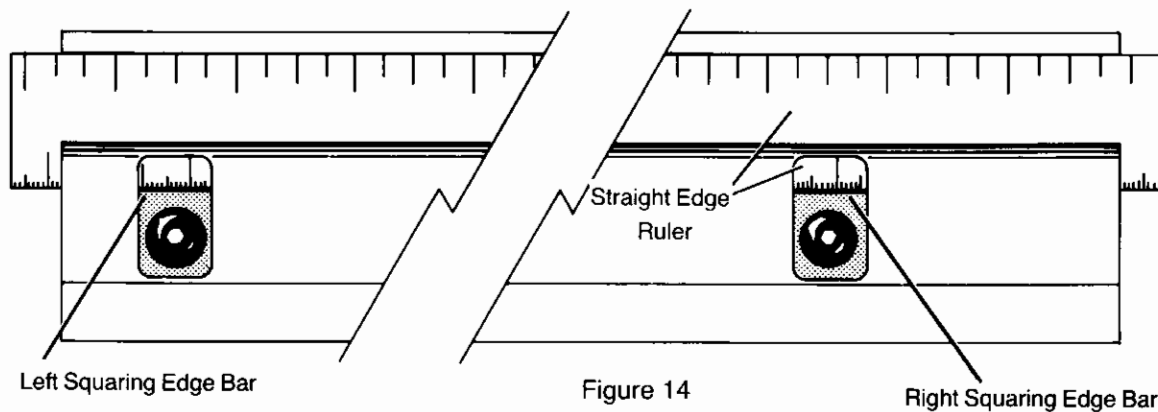

Figure 14
10. Lay a straight edge (at least 48 inches long) on the **Squaring Edge Bars** as shown in Figure 14 page 13. Rotate the **Eccentric Hex** in the **Right Support** (remember, the button head screw is still loose), until the **Right Squaring Edge Bar** just touches the straight edge. You can check this by sighting along the under edge of the straight edge in the three windows in the **Left and Right Supports**. Tighten the button head screw in the **Eccentric Hex** firmly without letting the **Eccentric Hex** rotate.
3. Slide the straight edge to the right so it lays on the **Right Squaring Edge Bar** and the **Left Squaring Edge Bar**. Holding the left part of the straight edge down on the **Left Squaring Edge Bar**, adjust the right most (number 3) **Eccentric Nut** if necessary, to bring the **Right Squaring Edge Bar** in contact with the straight edge. Again this can be easily observed in the cut out. See Figure 14